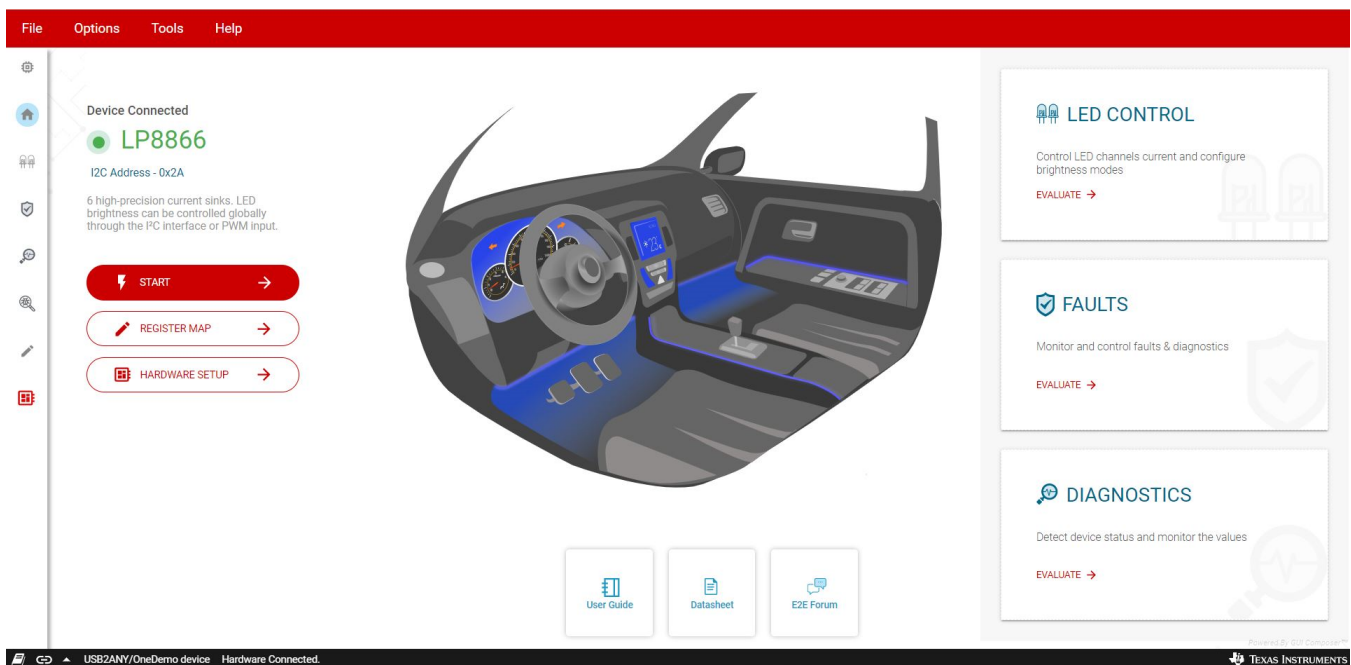

Figure 4. LP8866EVM GUI Home Page
3. Click "EXPLORE LP8866" to go to the LP8866EVM GUI home page (see Figure 4).